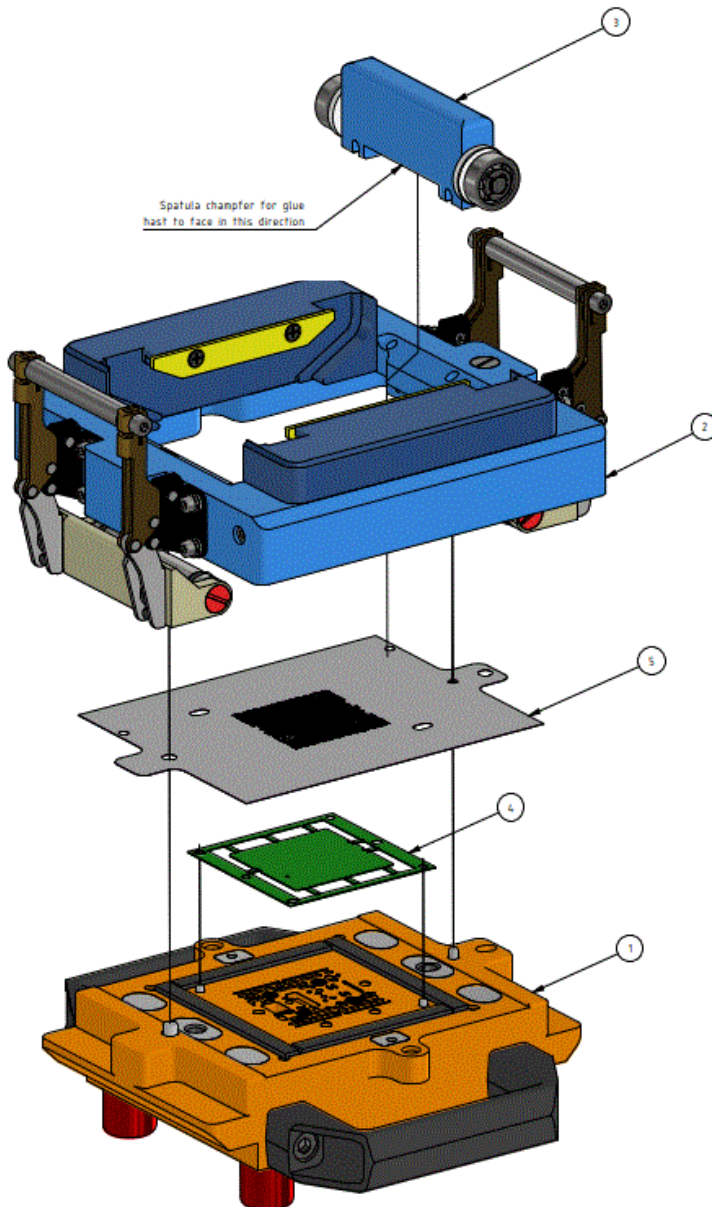

Fig.22 Glue application process
1. Position and fix FPCB Pos.4 on Flex-Jig Pos.1 (Fig.22)
2. Position Stencil Pos.5 on Flex-Jig Pos.1 (Fig.22)
3. Position and clamp Stencil-Tools Pos.2 on Flex-Jig Pos.1 (Fig.22)
6. Remove the stencil tool pos.2 and stencil pos.5 of the (Fig.22)